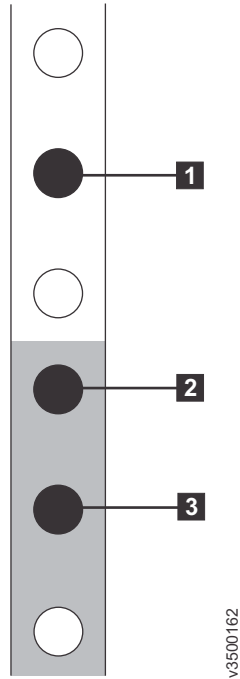

Figure 14. Hole locations in the front of the rack
3. Working at the front of the rack cabinet, identify the two standard rack units (2U) of space in the rack into which you want to install the support rails. Figure 14 on page 17 shows two rack units with the front mounting holes identified.